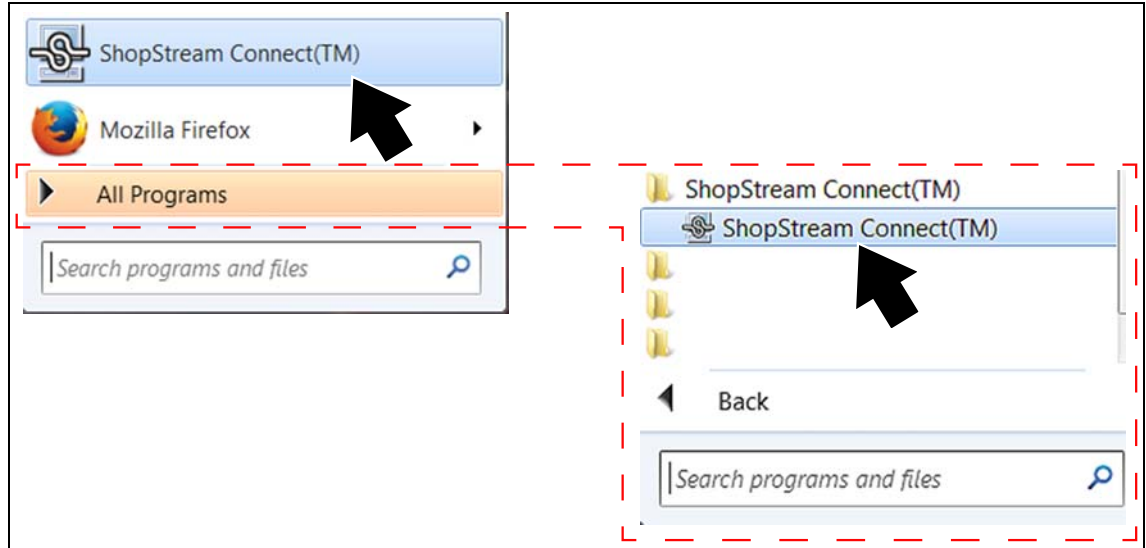

Figure 3-7 Typical Windows 7 start menu selections
- Select directly from the Start Menu (Figure 3-7 left) programs if available, or
- Select **Start > All Programs > ShopStream Connect > ShopStream Connect** (Figure 3-7 right).